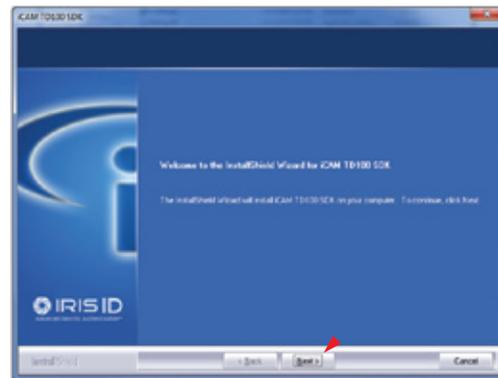

Fig.2
4. Select > Next at the Welcome to the InstallShield Wizard for iCAM TD100 SDK as shown in Fig.2.